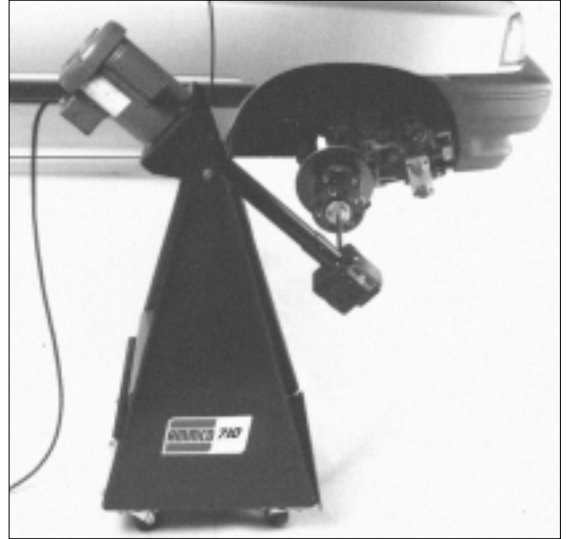

Figure 29
1. Select a convenient position for the driving unit floor stand. For example, if the lathe is located on the front side of the axle, it may be cumbersome to locate the floor stand on the same side, Fig. 29.